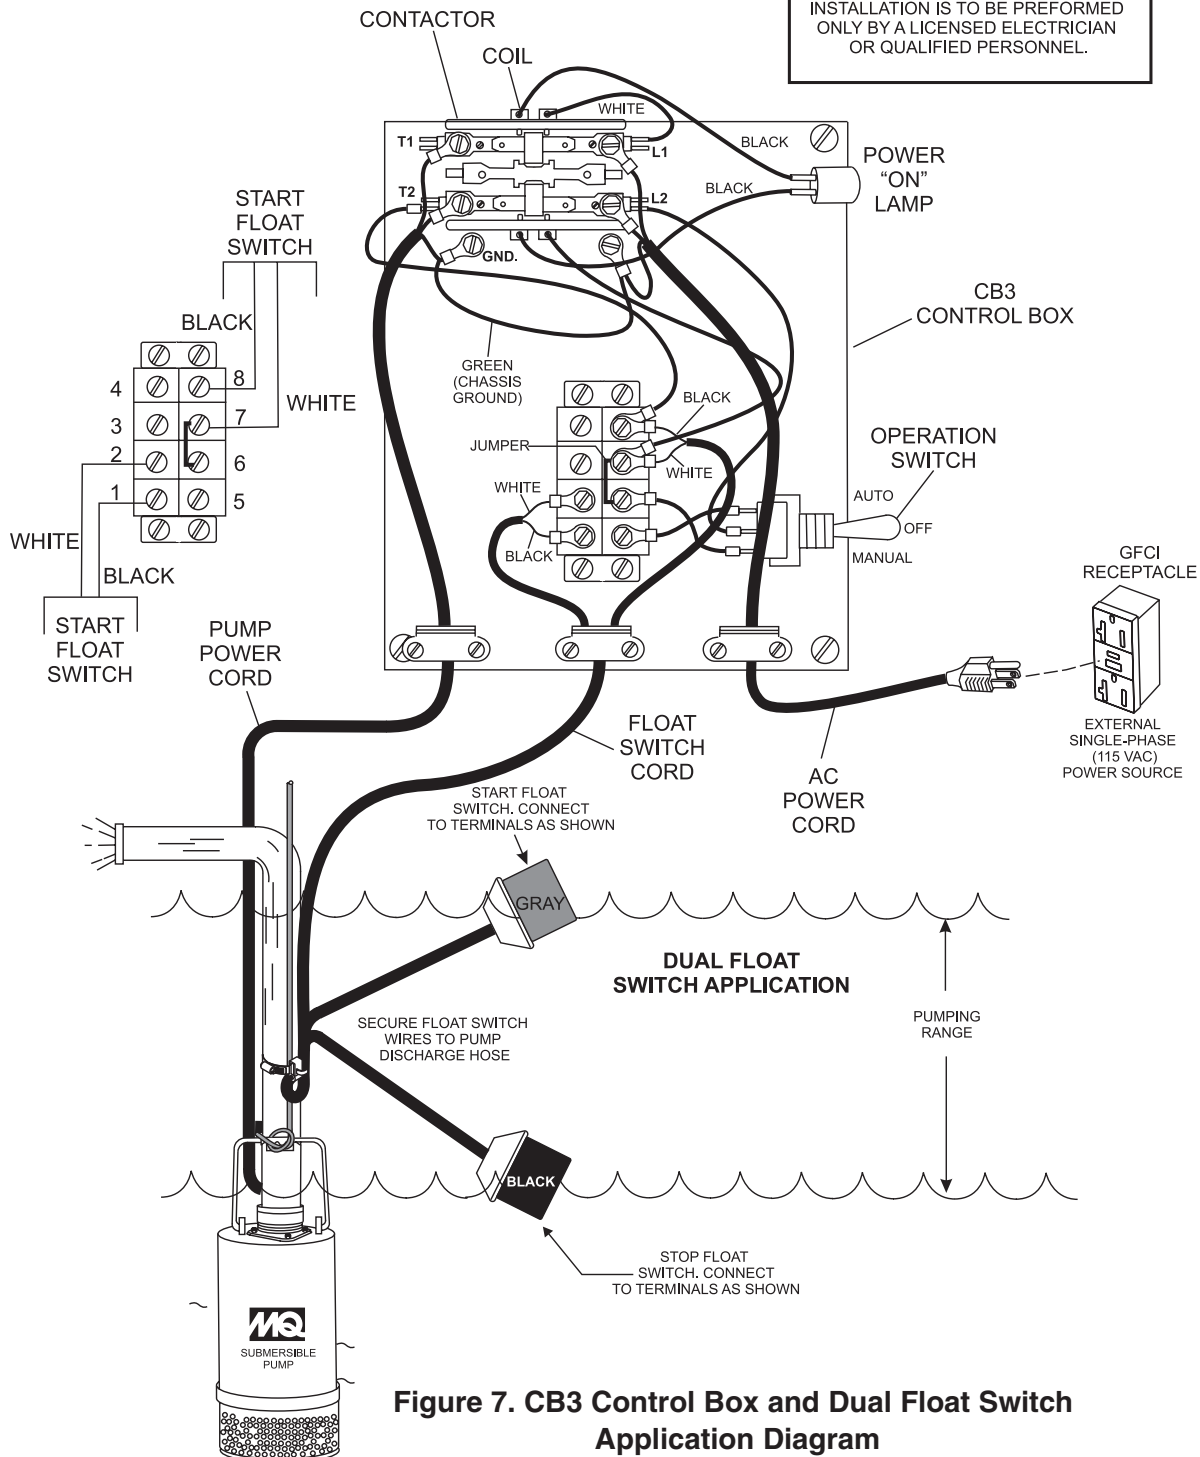

Figure 7. CB3 Control Box and Dual Float Switch Application Diagram
For special remote pumping applications of the submersible pump, a control box (**Model CB3 - for ST-2010, ST-2010A, ST-2010CUL, and ST-2010TCUL and Model CB6 - for ST-2010B**) may be required. This water resistant control box provides watertight housing and glands to prevent water from leaking into the box, and a float switch interface. When using the CB3 control box, only the **SW-1WOP float switch (2)** can be used (no plug, bare wires). Figures 7, 8, and 9 show wiring layouts of the different control boxes. See pages 24 and 25 for control box wiring diagrams.
3. Connect the AC power cord to the contactor as shown in Figure 7 and Table 6.
3. Connect the pump power cord to the contactor as shown in Figure 7 and Table 7.